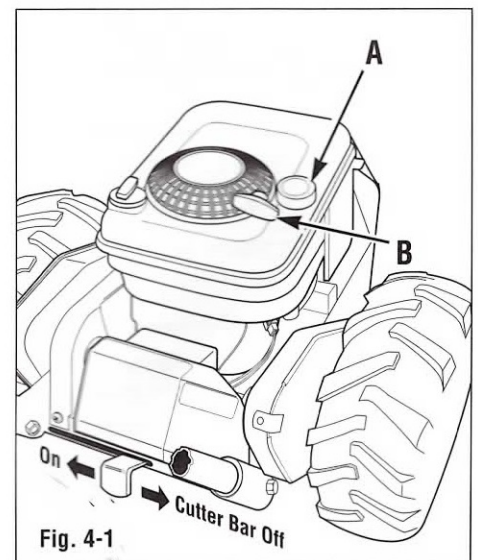
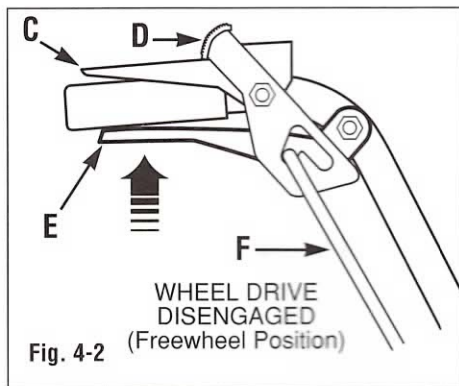

Fig. 4-1
Fig. 4-2
- ✓ Lock the wheel drive levers into the disengaged position (Fig. 4-2).
1. Unscrew the fuel tank cap (A, Fig. 4-1). Add gasoline. Leave at least two inches of space below the filler neck to allow room for expansion.
2. Move the cutter bar lever to the OFF position (Fig. 4-1) with your foot. Remove the plastic blade guard. Stand directly behind the unit in the operator position.
3. Squeeze the wheel drive levers (E, Fig. 4-2) and pull slightly backward and down on the thumb latches (D) until the wheel drive control rods (F) drop into the slots in the thumb latches.
Place one hand on the right handlebar (see the decal on the handlebar) to stabilize the unit when pulling the starter rope. Pull the starter rope handle (B, Fig. 4-1) until some resistance is felt, then pull rapidly to start the engine. Do not allow the rope to snap back—let it rewind gradually. Repeat as necessary until the engine starts.
3. Hold down the left operator presence control (OPC) lever (C, Fig. 4-2), then place the cutter bar lever in the ON position (Fig. 4-1).